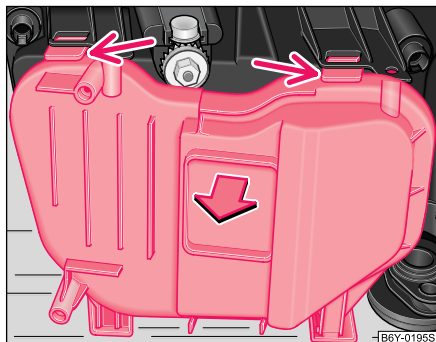

Fig. 153 Protective cover for the headlight at the front
- Press the securing spring downwards and remove the protective cover ⇒ fig. 153.
⇒ page 214, fig. 153.